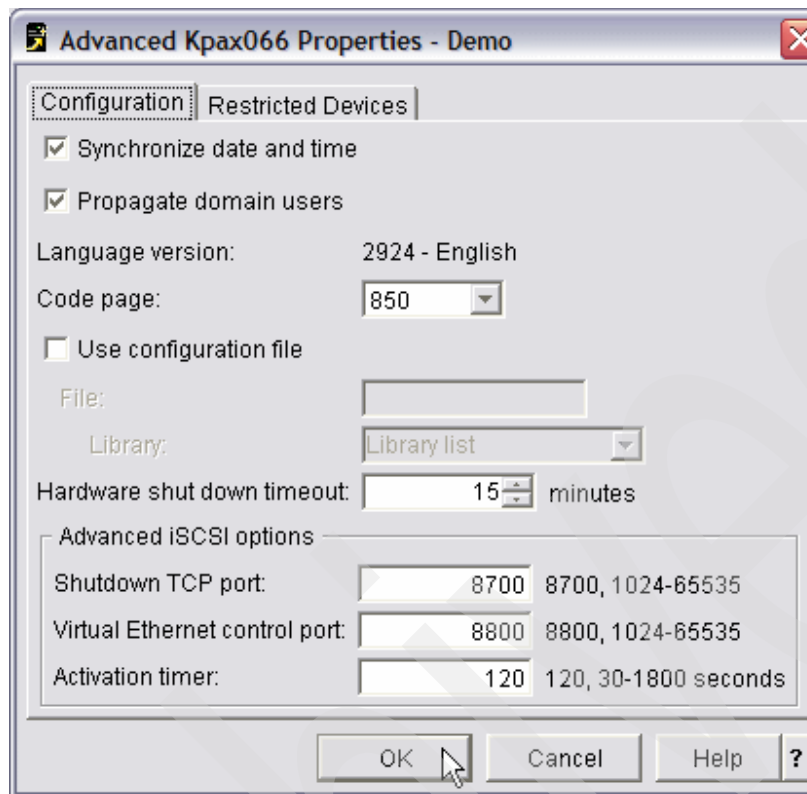

Figure 6-63 Configuration tab of the Advanced button on System tab
► **Configuration page information (Figure 6-63 on page 211):**